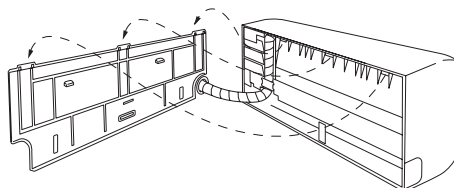
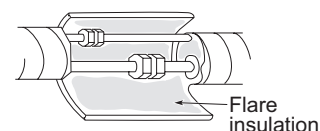

Fig. 2-254
Fig. 2-255
- (2) Push the wiring, refrigerant tubing, and drain hose through the hole in the wall. Adjust the indoor unit so it is securely seated on the rear panel. (Fig. 2-254)
- (3) Carefully bend the tubing (if necessary) to run along the wall in the direction of the outdoor unit and then tape as far as the fittings. The drain hose should come straight down the wall to a point where water runoff won't stain the wall.
- (4) Connect the refrigerant tubing to the outdoor unit. (After performing a leak test on the connecting part, insulate it with the tubing insulation. (Fig. 2-255)).